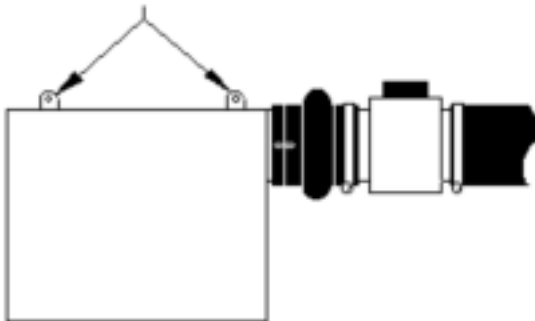

fig. 1
- 3) Un-bolt the airbox assembly from the body, it is held in place by two bolts. (see fig. 1)